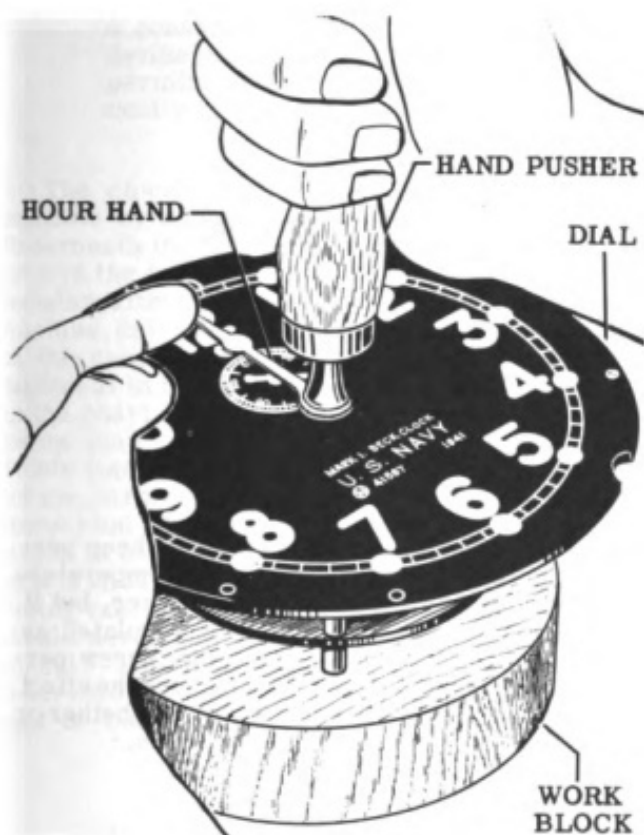

Figure 84
2. Replace the second hand, the hour hand and the minute hand using hand pushers (Tool No. 20A) as shown in Fig. 84. Lift up on the hour hand to see that there is endshake between it and the minute hand. Check to see that there is clearance between the second hand and the dial. If the hands are not completely free of each other and separated from the dial, the movement will lose time or stop. Replace any defective hands or dial train parts which cause binding.